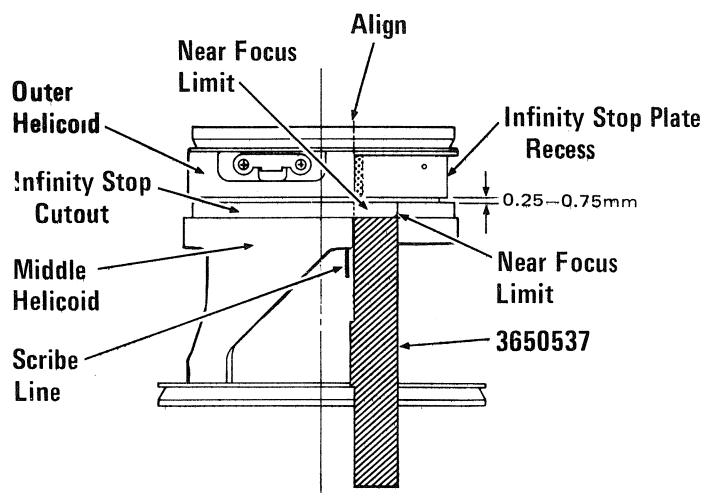

FIG. 5-2
- c) Using Tool No. 3650537 as shown, place a scribe or reference line 9mm (.354") from the near focus limit of the infinity stop cutout of middle helicoid. Fig. 5-2. (Width of the tool is 9mm.)
- d) Unscrew outer helicoid until a distance of 0.25mm (.010") to 0.75mm (.028") [usually about 0.5mm (.020") is right] is opened between the middle and outer helicoids and the edge of the infinity stop plate recess aligns with the scribe mark on the middle helicoid. Fig. 5-2.